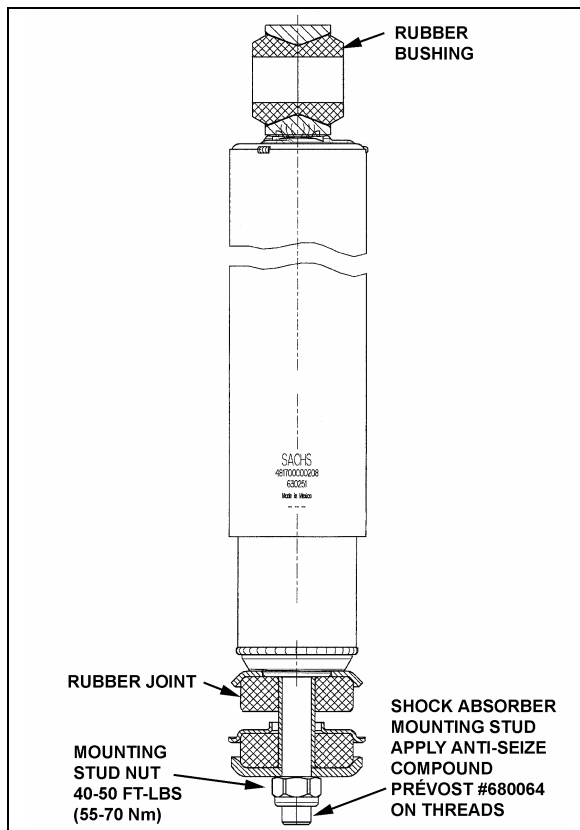

FIGURE 33: SHOCK ABSORBER
2. Remove the nut and washer from shock absorber mounting pin (upper side), taking care to identify the inner and outer washers to ease reinstallation. Refer to figure 33 for details.
3. Place the inner washer on shock absorber pin (Fig. 33).